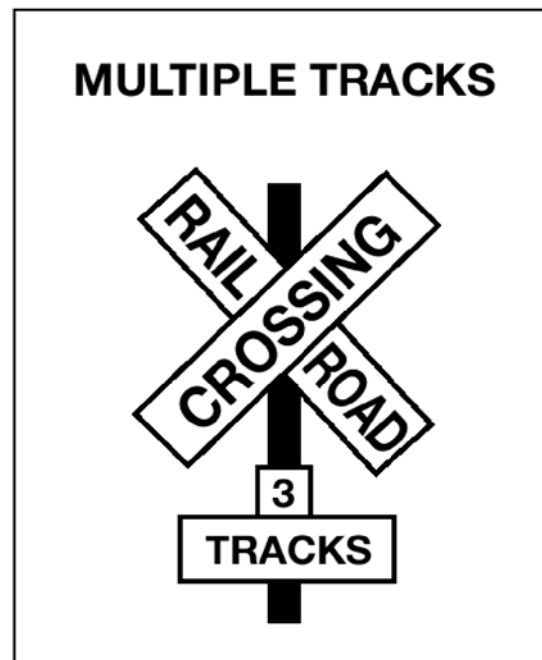

Figure 10.7
**Crossbuck Signs.** This sign marks the crossing. It requires you to yield the right-of-way to the train. If there is no white line painted on the pavement, you must stop the bus before the crossbuck sign. When the road crosses over more than one set of tracks, a sign below the crossbuck indicates the number of tracks. (See Figure 10.7.)